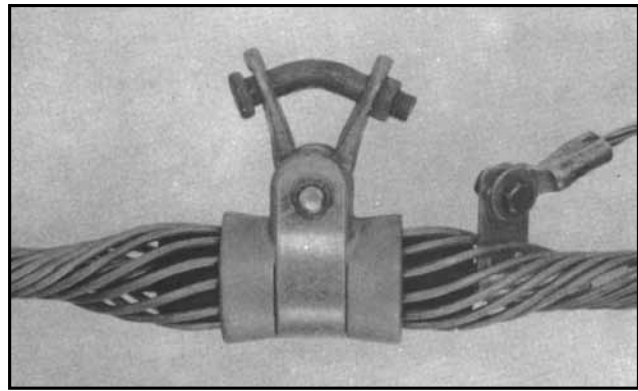

Figure 12
3.10 Attach bonding strap to Current Transfer Tab using suitable bolt, nut and lock washer (Figure 12).
3.11 Check completed application (Figure 12).